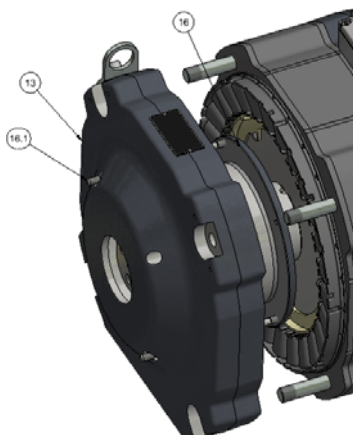

Fig. 4
- Screw 2 M8 tie rod Pos. 16.1 in the bearing flange Pos. 13 for helping the assembly bearing flange in the endshield as per Figure 4